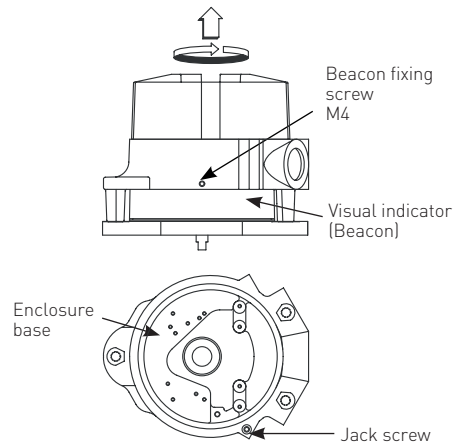

Figure 1 - Standard enclosure
2.4 Unscrew the cover (Figure 1 / 2) and keep in a safe place. Ensure that the Jack screw (M4 socket head cap screw) remains in the housing (Figure 1 / 2).
Loosen the beacon fixing screw, see Figure 1 / 2, rotate beacon window (outer beacon) to indicate appropriate open or closed text as corresponding to actuator position.